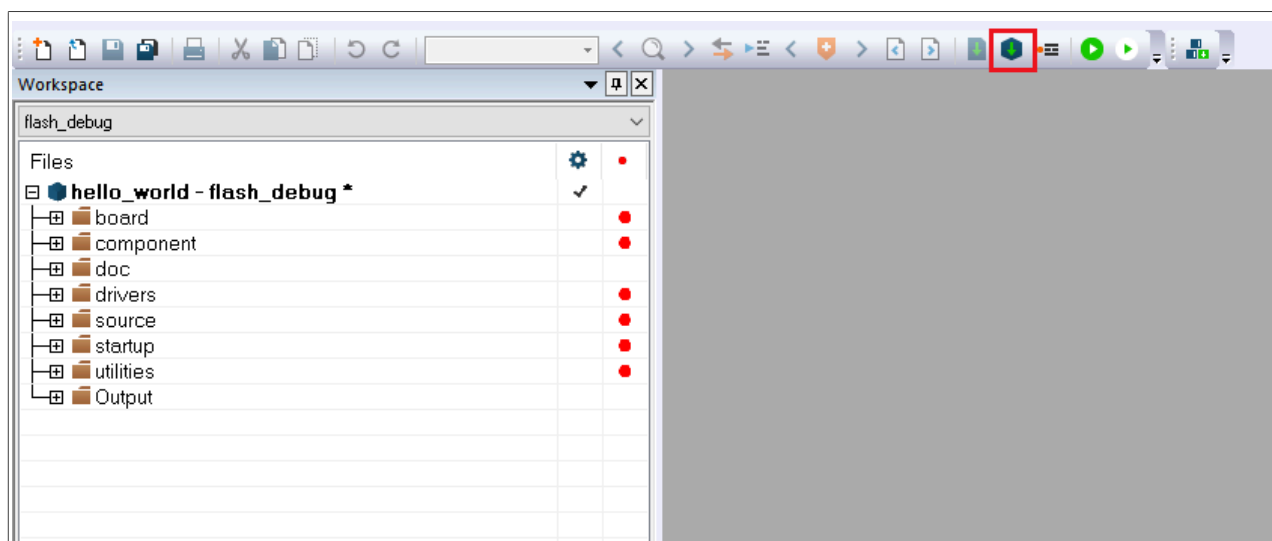

Figure 26. Building the demo application
- To build the demo application, click **Make**, highlighted in red in Figure 26.